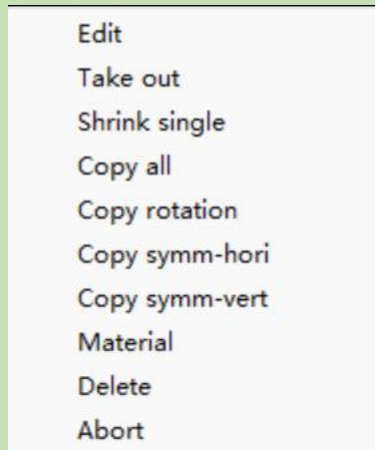

Figure10-1
1. It is used to perform relevant operations after selecting the pattern pieces. Right-click on the required pattern pieces and select the desired menu as shown in Figure 10-1.